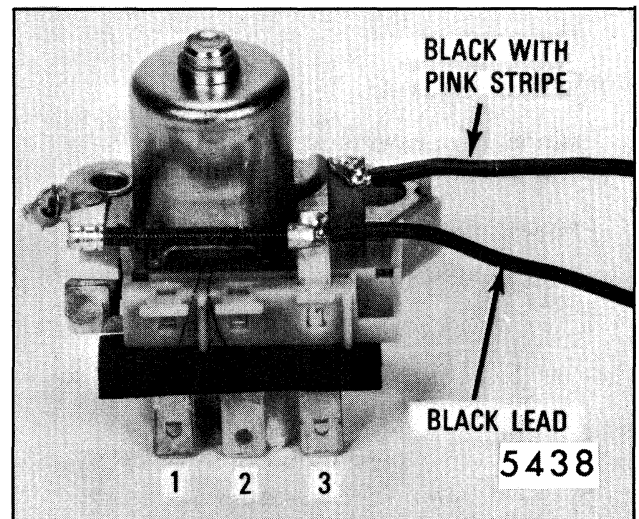

Fig. 2-41-Relay Switch and Terminal Board
3. Remove relay switch and terminal board attaching screw and carefully lift the assembly out of the gearbox. Unsolder leads as required. Refer to Figure 2-41 when resoldering leads.